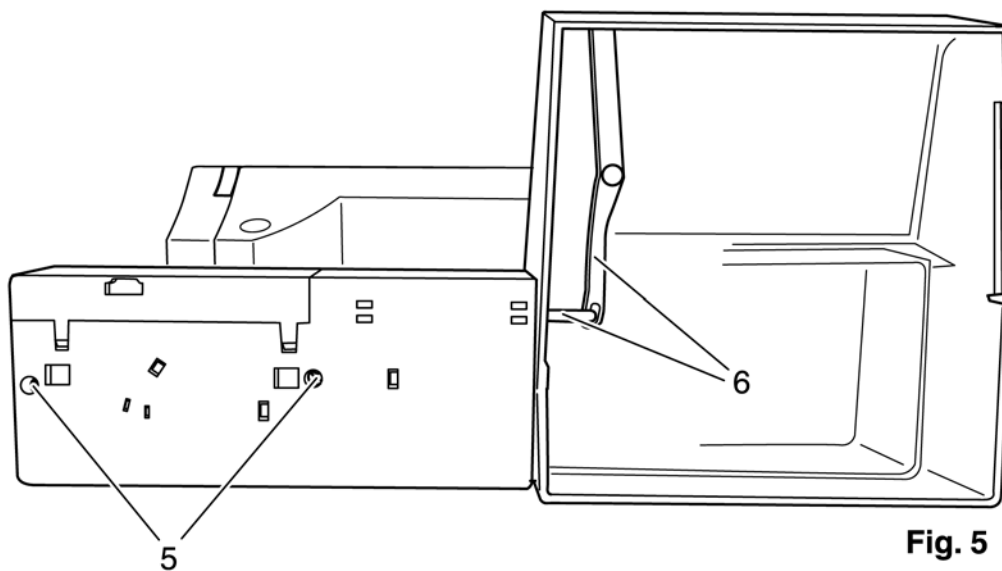

Fig. 5
- Unscrew and remove both fastening screws 5 on the free-arm cover (fig. 5).